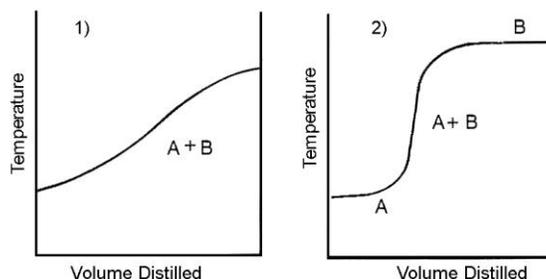

Figure 2. Distillation curves for a) poor separation and b) good separation.
1. Add the temperature data from both distillations to the table to the right. Then construct, using a spreadsheet or a graphing program, a graph of temperature vs. mL of distillate with two curves on it. One curve will be your simple distillation data while the other will be the given fractional distillation data. Be sure you use proper graphing techniques, e.g. title, labels and units on axes, legend, reasonable size and scale, etc. Draw in a curve that you think best represents your data and a curve that best represents the fractional distillation data. This curve should not be a dot-to-dot line. This curve should be drawn by hand and NOT by computer. Use the distillation curves in Figure 2 to help you estimate the curves.
Draw in a curve that you think best represents your data and a curve that best represents the fractional distillation data. This curve should not be a dot-to-dot line. This curve should be drawn by hand and NOT by computer. Use the distillation curves in Figure 2 to help you estimate the curves.